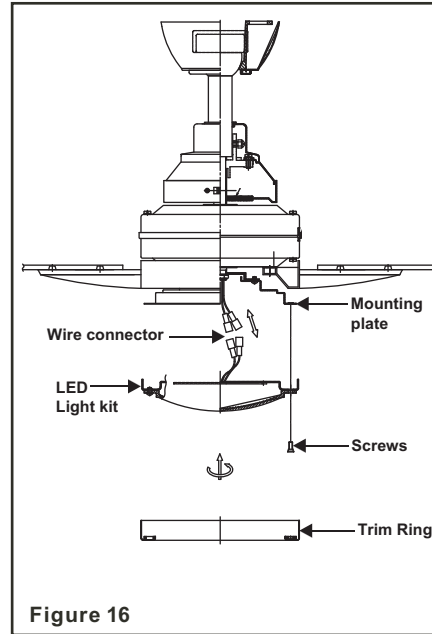

Figure 16
Step 1. Remove the two (2) Phillips headed shoulder screws from the light kit mounting plate. (**Note:** Do not remove the two torx head screws.) (Fig. 16)
Step 3. Align the torx head screws in the light kit with the two keyholes in the light kit pan. Reinstall the two (2) Phillips head screws previously removed into the threaded holes and securely tighten. (Fig. 16)
Step 4. Align the trim ring onto the two (2) Phillips screw heads on the light kit and turn clockwise until snug. (Fig. 16)